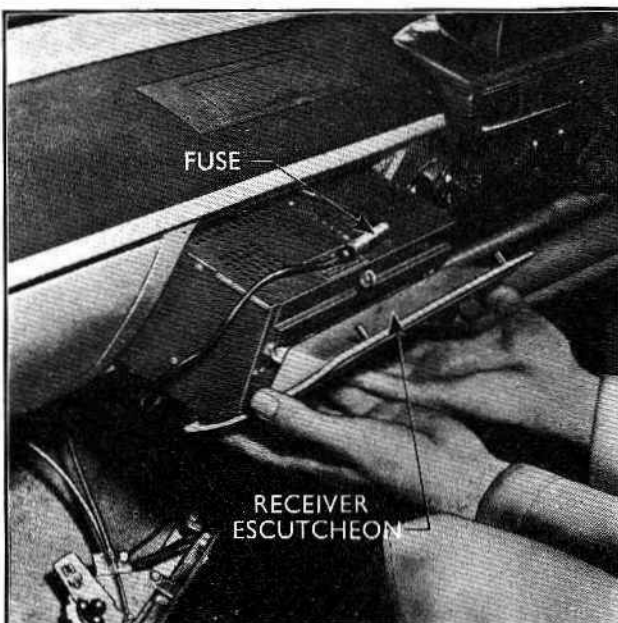

Fig. 585
The radio fuse is contained in the bayonet type connector incorporated in the main supply lead (see Fig. 585). A 5 amp. fuse is supplied with the installation and it is most important to ensure that a fuse of this rating only is used as a replacement, should the original burn out.
- 2 Lift the receiver with the escutcheon carefully back into position and push the locating pegs on the escutcheon back into their spire clips (see Fig. 585).